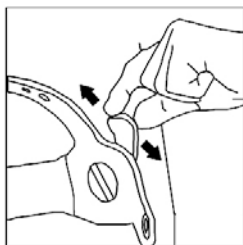

Fig. 2
3. Adjust the helmet position on the headband with the side tab system. There are five pegs on the right side of the headband. Slide the tab on the helmet over the peg on the right side to position the welding helmet before fine tuning the viewing angle in the next step (Fig. 2).